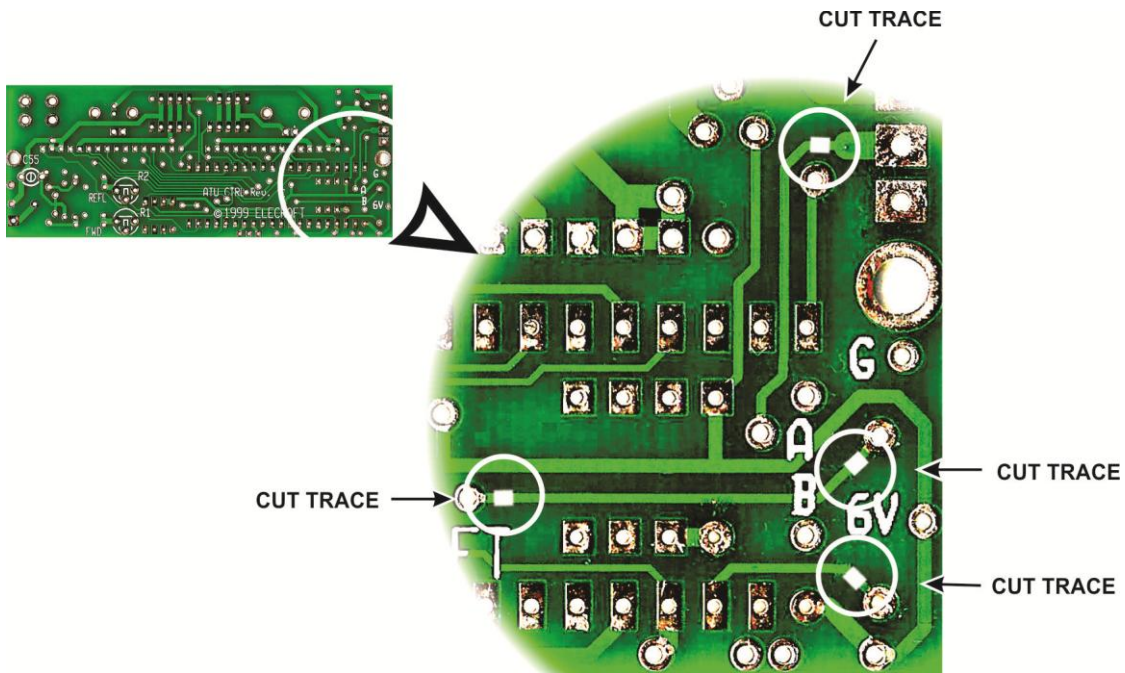

Figure 2. Cutting the Traces.
- Use a sharp knife or other tool to cut the traces at four places as shown in Figure 2 on the next page. Be sure you remove all of the metal so that the circuit is now open. Rather than a simple cut, we recommend you remove a short section of the trace is indicated.